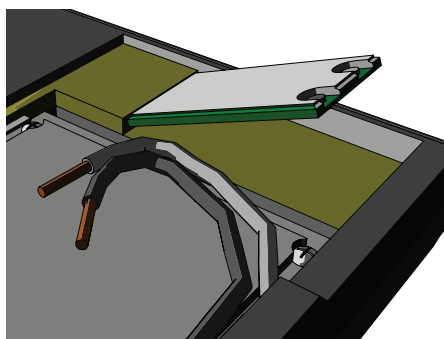

Fig.12
2. Insert the adapter into the socket at a slight angle. (See Fig.12)